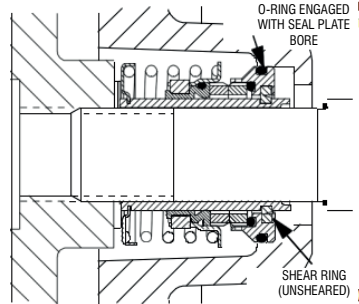

Figure 5. Seal Partially Installed
Clean and inspect the impeller as described in Impeller Installation and Adjustment. Install the full set of impeller shims (40) provided with the seal, and screw the impeller onto the shaft until it is seated against the seal (see Figure 5).